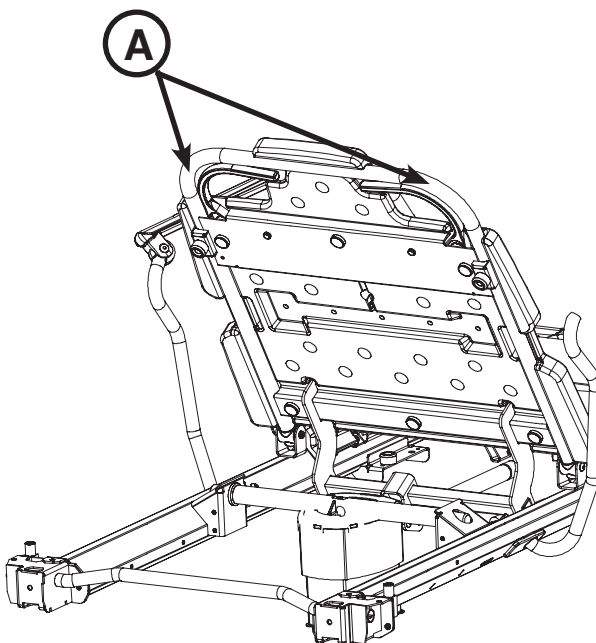

Figure 22: Pneumatic Fowler - Prime
To raise the fowler, squeeze either or both of the yellow fowler handles (A) for pneumatic assist until the fowler has reached the desired angle (between 0 and 90 degrees) as shown in Figure 22.
To lower the fowler, squeeze either or both of the yellow fowler handles (A) and push down until the fowler has reached the desired angle (between 90 and 0 degrees) as shown in Figure 22.